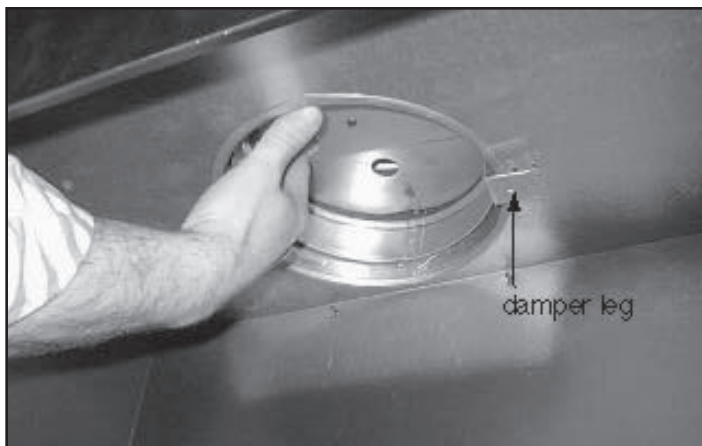

Figure 2 Install Damper
- From inside the appliance, gently push the damper into the appliance collar until the support legs are flush with the firebox top. See Figure 2.